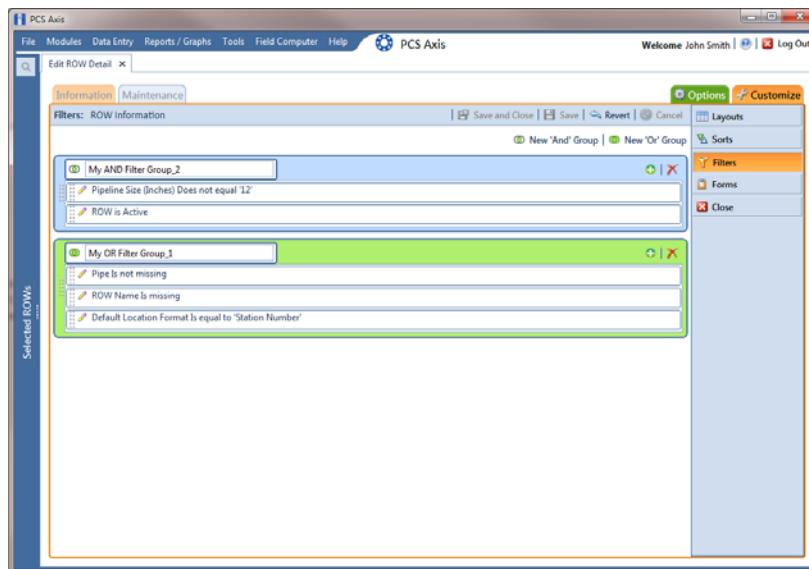

Figure 4-44. Filters
- 4 Click the **Customize** tab  then the **Filters** button  to open the *Filters* page (Figure 4-44).